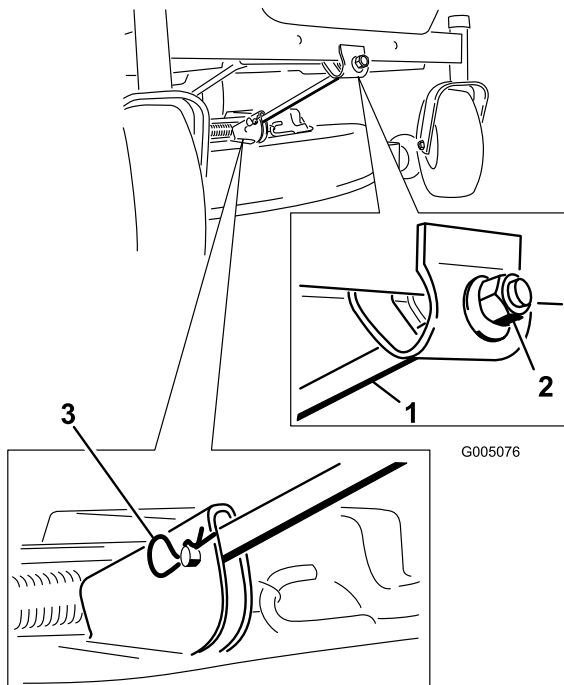

Figure 54
- Remove the hairpin cotter and clevis pin from the front support rod (Figure 54). Carefully lower the front of the mower deck to the ground.
6. Attach the front support rod to the mower deck with the clevis pin and hairpin cotter (Figure 54).